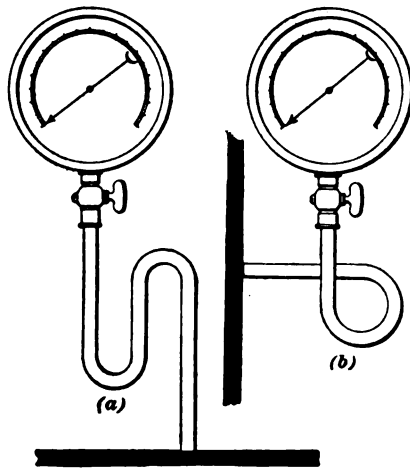

FIG. 3.
**9. Gauge Pipe.**—The pipe that connects the gauge to the boiler should be bent in such a way as to prevent the steam from coming in contact with the tube *a*, as it has been found that the high temperature of the steam injures the tube. If the pipe is bent as in Fig. 3 (*a*) or (*b*), the bent portion will fill up with comparatively cool water condensed from the steam.